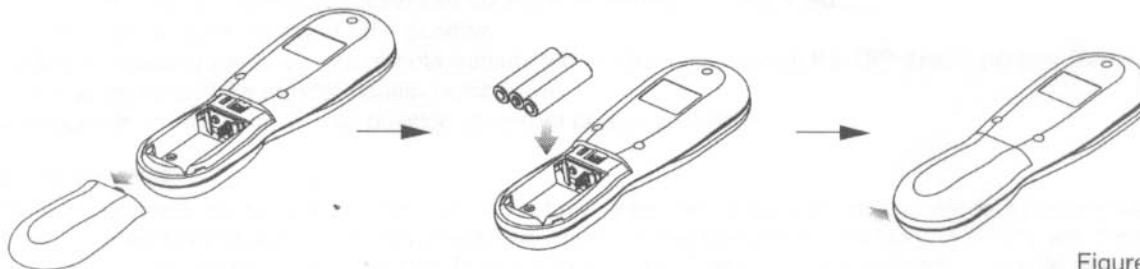

Figure 7
**F. Batteries:** See Figure 7.